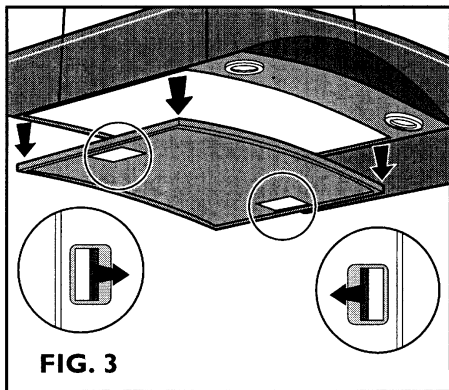

FIG. 3
- Push clips towards the center and pull the filters downward. Fig. 3.